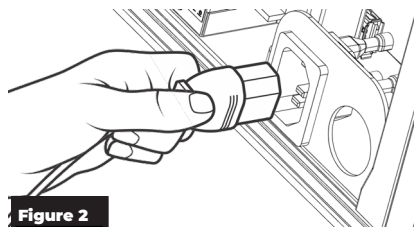

Figure 2
1. Plug the female end of the provided AC Power cord into the plug of the AC Power Bracket. (Figure 2). **Do not plug the male end of the cable into a power source at this time.**